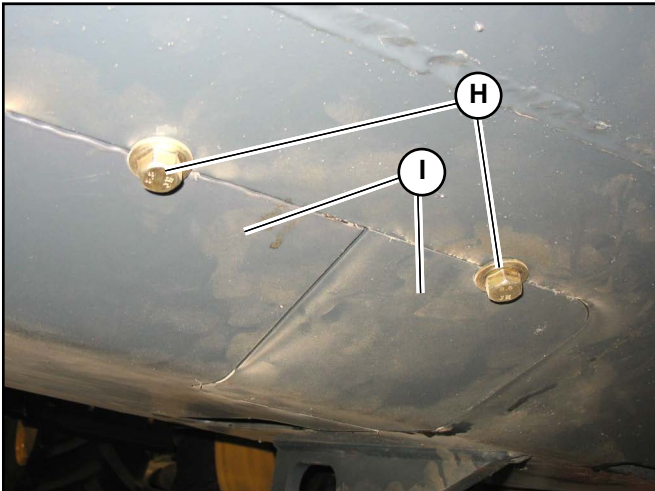

Fig. 145 – Hydraulic Pump Access
2. Remove hardware (H, Fig. 145) under the machine securing access panels (I). Remove the panels.
2. Replace access panels (I, Fig. 145) and secure with hardware (H).